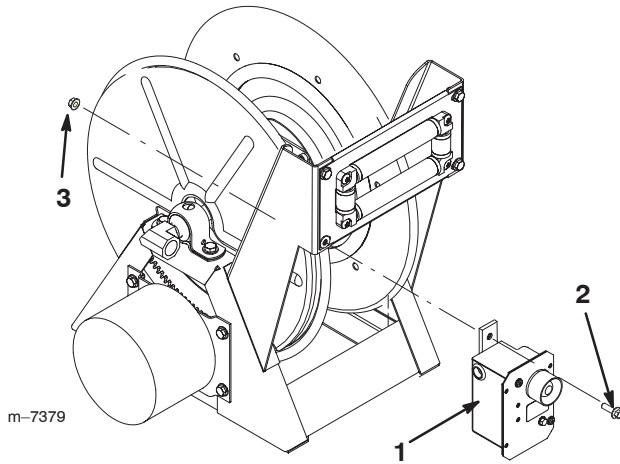

Figure 6
10. Remove and discard the bolt and nut from the lower inside roller support on the hose reel and install the electrical box in that hole (Fig. 6), using a flange-head bolt (5/16 x 1 inch) and a flange nut (5/16 inch).